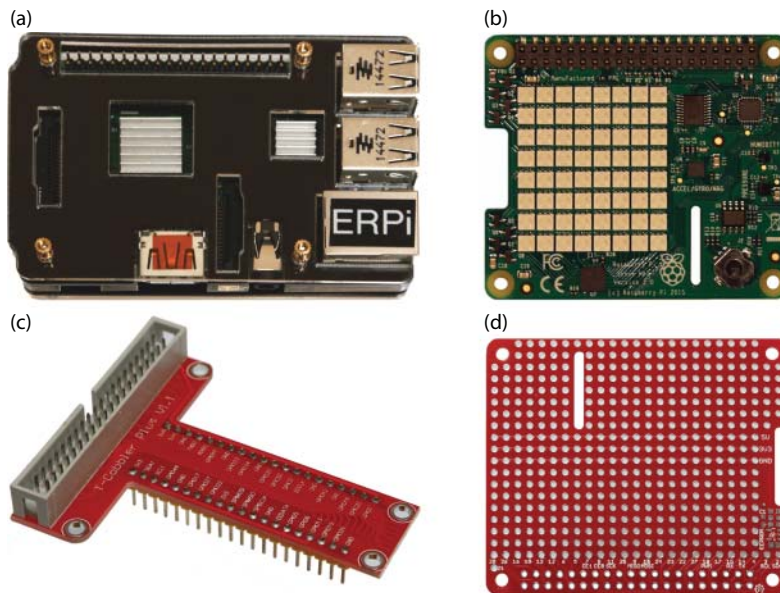

Figure 1-10: RPi Accessories: (a) An example case; (b) The Sense HAT; (c) The T-Cobbler board; and (d) A prototyping HAT
Many different cases are available for protecting your RPi, including the one illustrated in Figure 1-10(a) (\$6). Cases are useful for protecting the RPi from accidental short circuits (e.g., placing the RPi on a metal surface), but they do
Figure 1-10(b) illustrates the RPi Sense HAT (\$35). It contains an: 8×8 LED matrix display, accelerometer, gyroscope, magnetometer, air pressure sensor, temperature sensor, humidity sensor, and a small joystick. Figure 1-10(d) illustrates a low-cost blank prototyping HAT that can be used to design your own HAT, which includes space on the bottom right for a surface-mounted EEPROM that can be used to identify the HAT to the RPi.
An alternative to designing your own HAT is to use the T-Cobbler board as illustrated in Figure 1-10(c) to break out the RPi GPIO header to a breadboard using a 40-pin ribbon cable, which is available with the T-Cobbler. This sits neatly into a prototyping breadboard (see Chapter 4), providing clear pin labels for all of the RPi GPIO pins.
- Do not place a powered RPi on metal surfaces (e.g., aluminum-finish computers) or on worktops with stray /cut-off wire segments, resistors, etc. If you short the pins underneath the GPIO header, you can easily destroy your board. You can buy a case such as that in Figure 1-10(a). Alternatively, you can attach small self-adhesive rubber feet to the bottom of the RPi.
- Carefully check the pin numbers that you are using. There are 40 pins on the GPIO header, and it is very easy to plug into header connector 21 instead of 19. The T-Cobbler board in Figure 1-10(c) is very useful for interconnecting the RPi to a breadboard, and it is highly recommended for prototyping work.